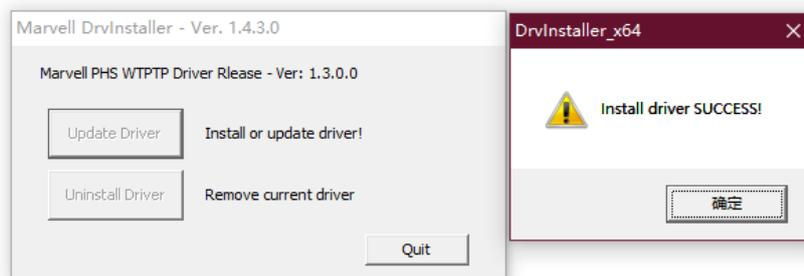

Figure 5: Software installation diagram
2. Installing the software. If the installation is successful, it will be depicted in Figure 5.